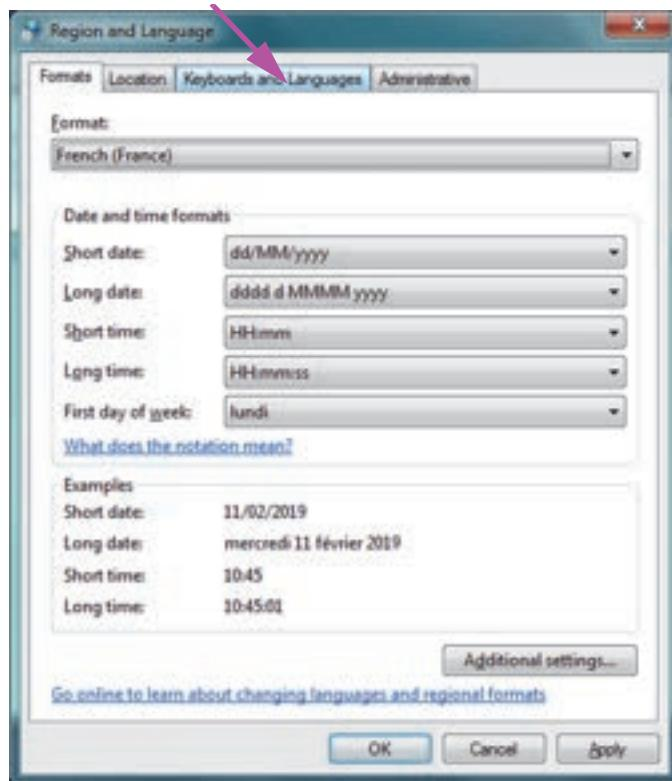

Figure C-7. Region and Language Drop-Down Window
1. On the Region and Languages screen, click the **Keyboards and Languages** tab (see Figure C-7).